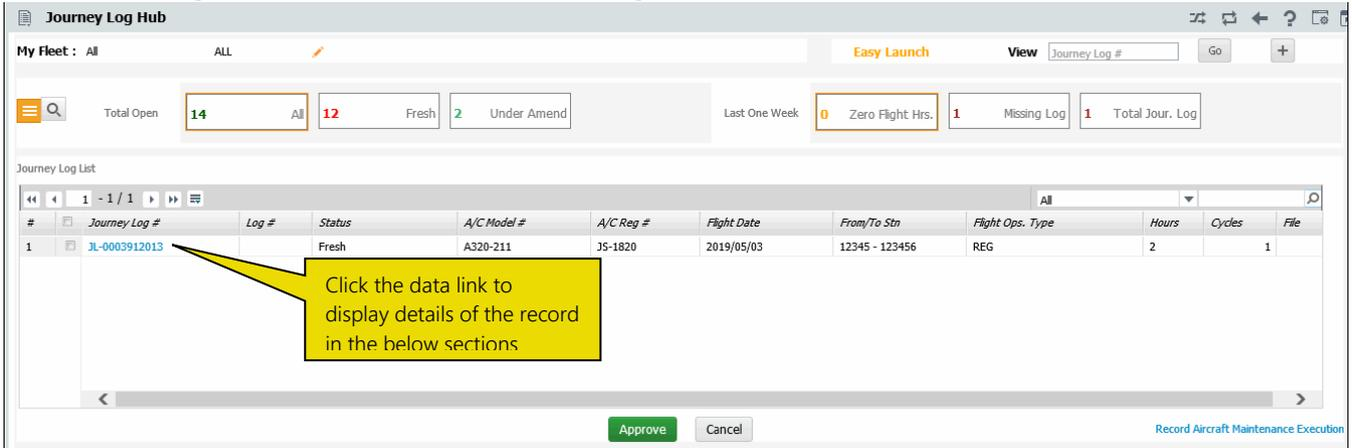

Figure 2.4: The Journey Log Status retrieval view
1. Click in the  icon to view and work on journey logs based on status. The system retrieves / displays the following information on the selected fleet. See Figure 2.4.